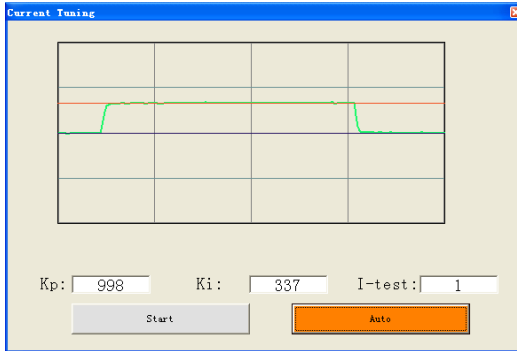

Figure 23: Current Tuning window
**Kp: Proportional Gain.** Proportional Gain determines the response of the drive to current setting command. Low Proportional Gain provides a stable system (doesn't oscillate), has low stiffness, and large current error, causing poor performances in tracking current setting command in each step like Figure 23. Too large Proportional Gain values will cause oscillations and unstable systems.
**Start** button: The user can start a Step Response test by clicking this button. Start/Restart a Step Response test to get an optimum response like Figure 23, and remember to save the settings to the drive by clicking **Write EEPROM** in **parameters configuration** window when finish tuning .